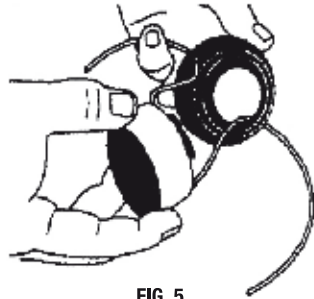

FIG. 5
6. Insert the line through each spool holder eyelet and insert the spool in it. (Fig. 5).